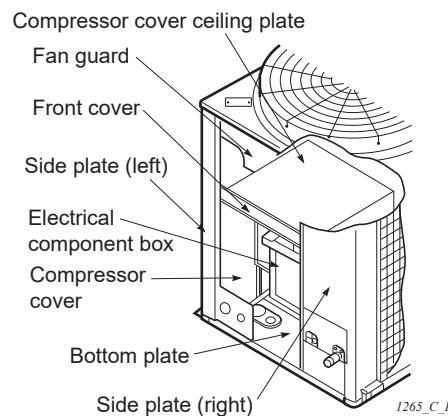

Fig. 1
- (1) Remove the fan guard shown in Fig. 1 (4 screws).
- (2) Remove the cover in front of the compressor cover ceiling plate (2 screws).
- (3) Remove the compressor cover ceiling plate (2 screws). Lift up the left side of the ceiling plate and with the ceiling plate tilted, pull it out.
- (4) Remove the electrical units and control lines from the terminal plates.
- (5) Disconnect the connector connected to the outdoor unit PCB from inside the unit. (Solenoid, thermistor, fan motor, crank case heater, etc.)
- (6) Remove the electrical component box (4 screws).
- (7) Remove the screws holding the compressor cover main unit and shift it to the rear.